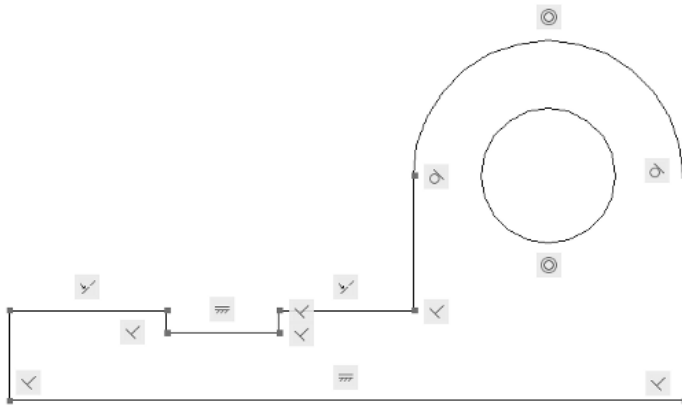

Figure 11-34 Sketch with all constraints applied
2. Make sure that you have applied all required geometrical constraints, see Figure 11-34.